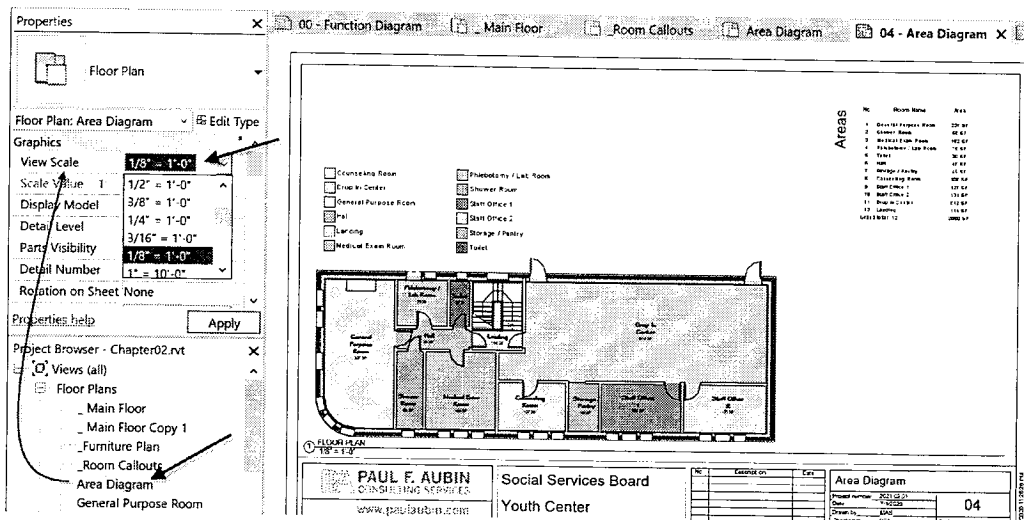

FIGURE 2.18 *Change the scale of the view*
- ⇒ On the Properties palette, from the View Scale list, choose: **1/8"=1'-0"** (see Figure 2.18).